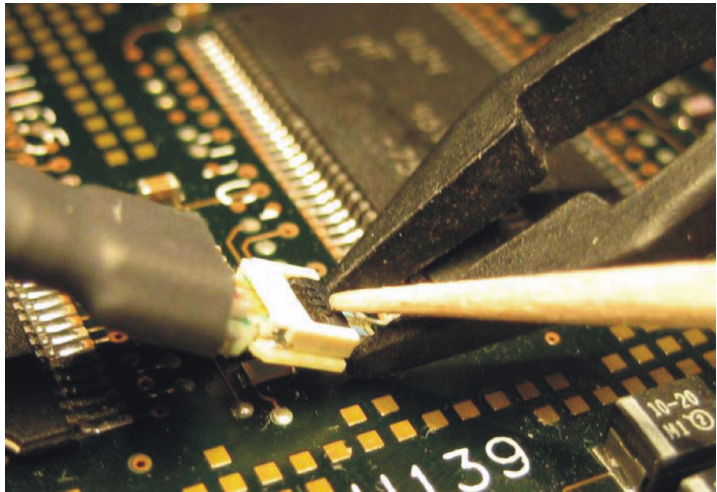

Figure 3-23 Use non-conductive tool to close the latch
- 6 Connect ZIF probe head to ZIF tip desired for measurement. When you need to make a measurement at a point where you've previously installed a ZIF tip, insure the latch on the ZIF tip is open, insert the contacts on the probe head into the ZIF socket, and then close the ZIF latch with a non-conductive tool. Depending on the positioning of the ZIF tip, you may need to support the body of the ZIF tip while closing the latch. This can be done by tweezers or other suitable tool by grabbing the PC board at the tip while the latch is being closed. If the circuit is live and there is concern about shorting anything out, use plastic or non-conductive tweezers. See Figure 3-23.